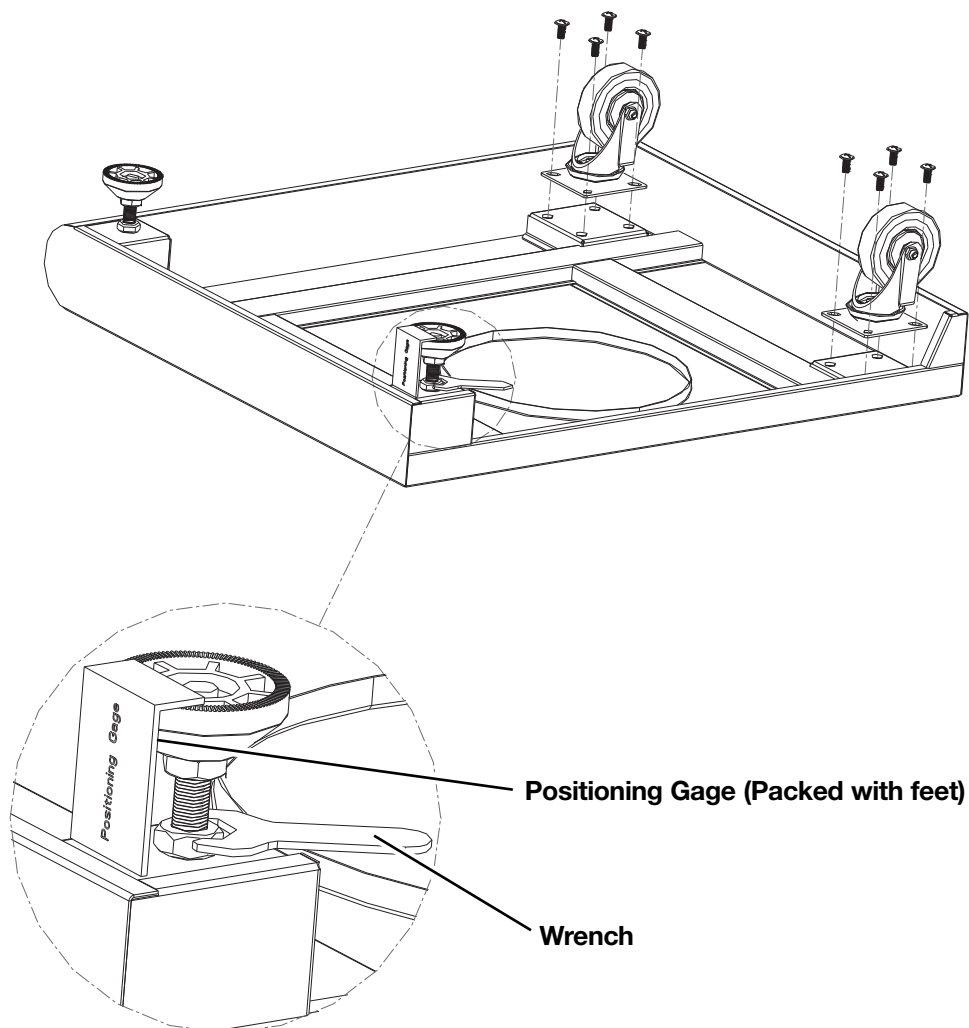

Fig. 1
1. Turn bottom shelf upside down. Attach the two (2) standard casters to right side of bottom shelf with eight (8) M6 x 13 screws as shown in **Fig. 1**.
2. Screw one foot into the bottom shelf by hand, using the positioning gage to determine the proper depth as shown in **Fig. 1**. Once the foot is screwed in to the proper depth, hold it in place while tightening the nut to the bottom shelf with the provided wrench, as also shown in **Fig. 1**. This will secure the foot in place.